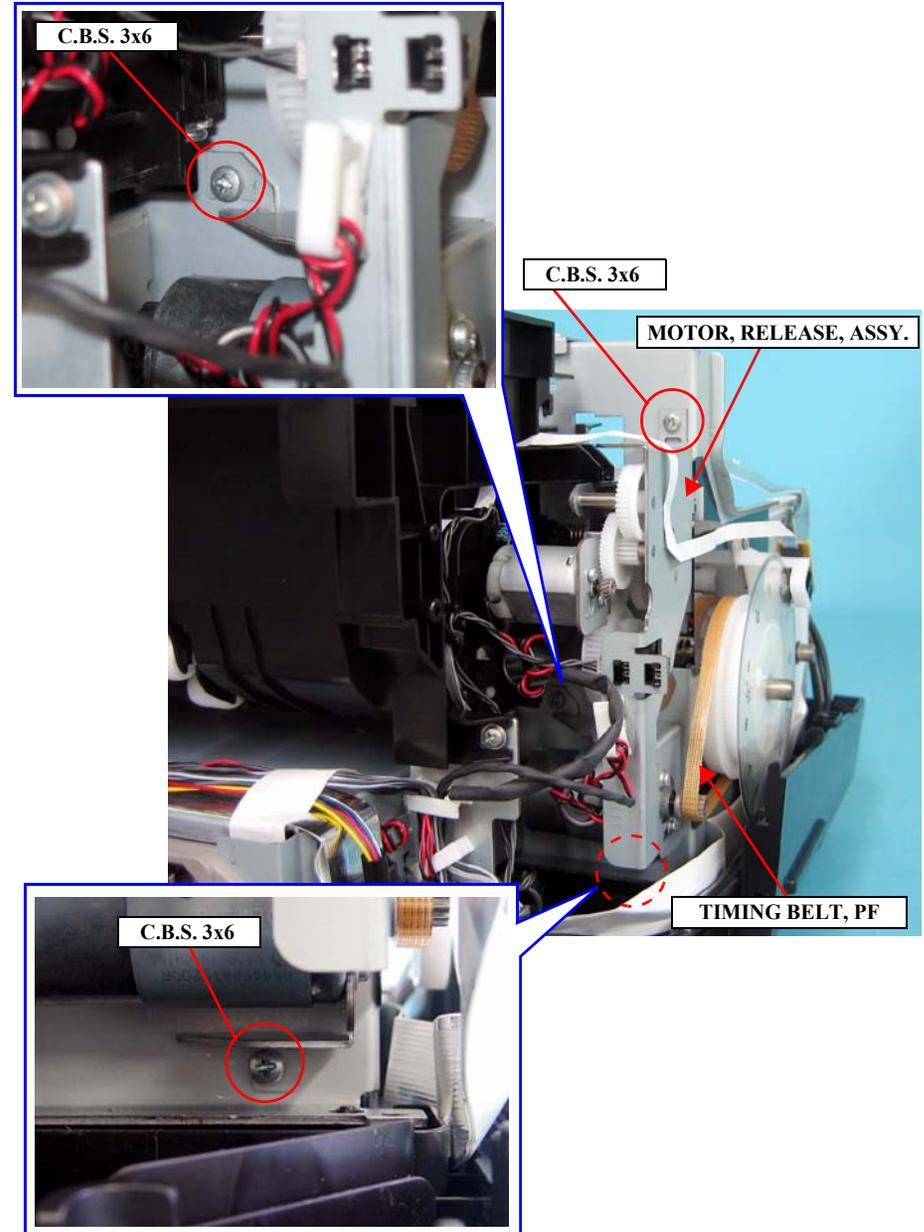

Figure 4-134. Removing the screws from the MOTOR, RELEASE ASSY.
7. Remove the three screws that secure the MOTOR, RELEASE, ASSY. *See Figure 4-134.*